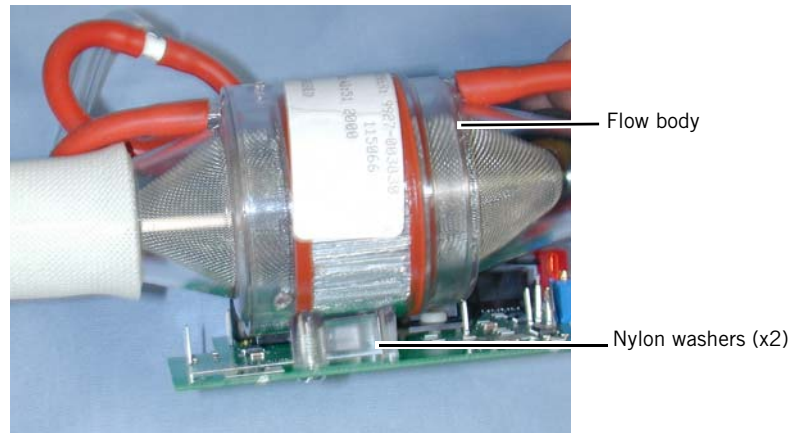

Figure 8-7: Reassembled AFM
5. Replace the flow body and fasten the screws (Figure 8-7).